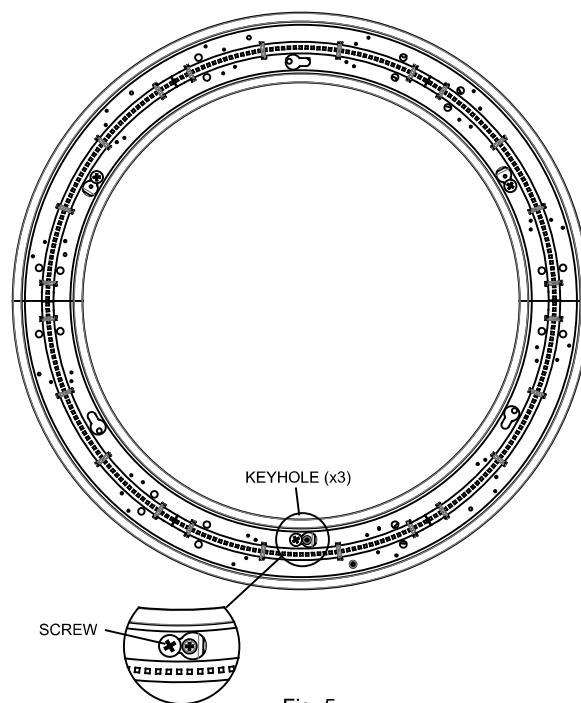

Fig. 5
5. Lift the fixture into place to match keyhole labeled on the fixture with the bracket labeled on the ceiling plate and twist onto keyholes (x3). Tighten screws to secure (Fig. 5).